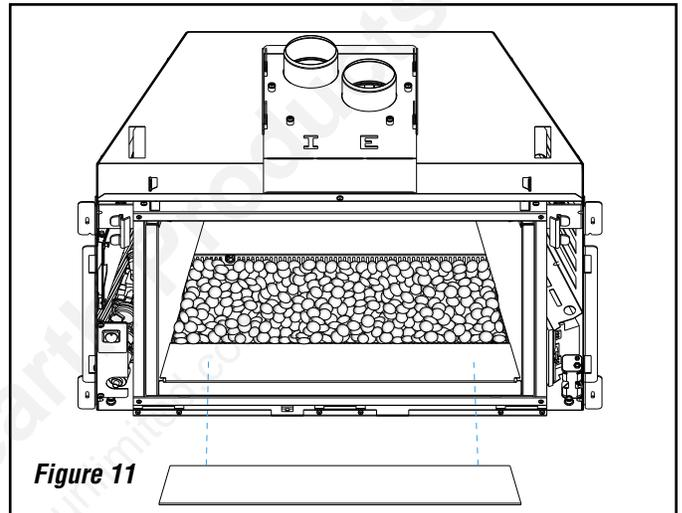

Figure 11
1. Measure out glass media*, and place an even layer on burner as shown in **Figure 11**. Care should be taken to NOT block pilot opening in burner tray, or mound up media.